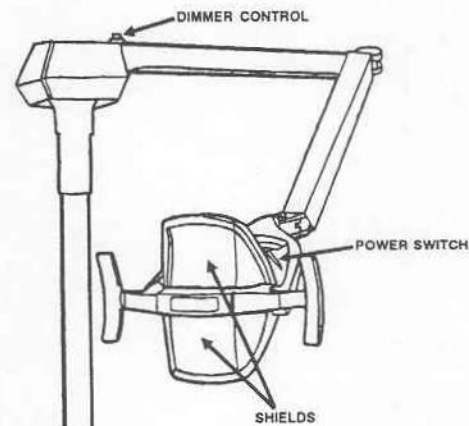

Figure 1-1. Dimmer control, power switch, and shields.
a. *Dimmer control (fig 1-1).* The rotary dimmer control is located in the back of the rear arm. The control can be adjusted to "LO" (low), "MED" (medium), and "HI" (high) intensities.
b. *Power switch (fig 1-1).* The power switch is a long hand-led toggle switch located behind the light head.
c. *Shields (fig 1-1).* The plastic shields are provided as a safety feature to prevent water from splashing on the glass reflector or lamp. The shield will also retain broken glass in the unlikely event that a lamp explodes.